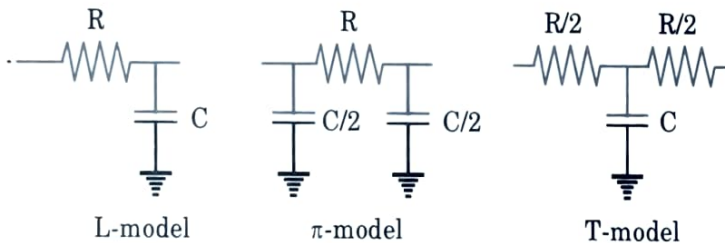

Fig. 2.7.1. Lumped approximation to distributed RC circuit.
4. Fig. 2.7.1 shows how a distributed RC circuit is equivalent to N distributed RC segments of proportionally smaller resistance and capacitance, and how these segments can be modeled with lumped elements.